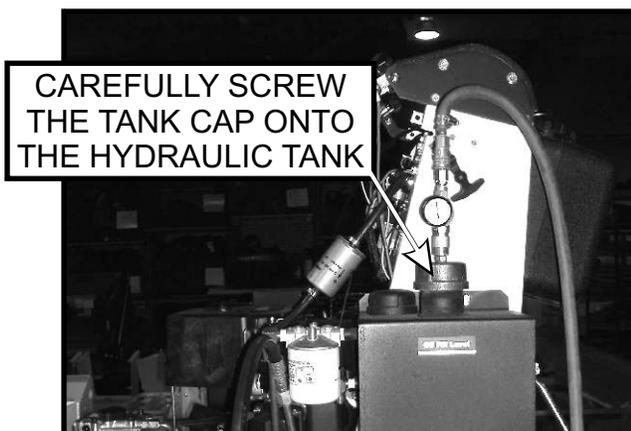

Figure 5
5. With the air regulator attached to the hydraulic oil tank cap, carefully screw the tank cap onto the hydraulic tank. Figure 5